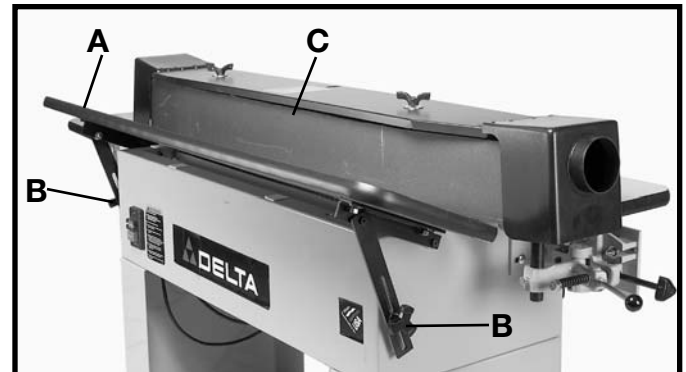

Fig. 27
The tilting table (A) Fig. 27, can be tilted by loosening two lock knobs (B) on each side of the table. Once the angle of tilt has been set, tighten lock knobs (B).